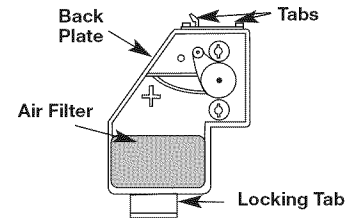

Fig. 28
2. Remove the air filter (Fig. 28).
6. Replace the filter (Fig. 28).